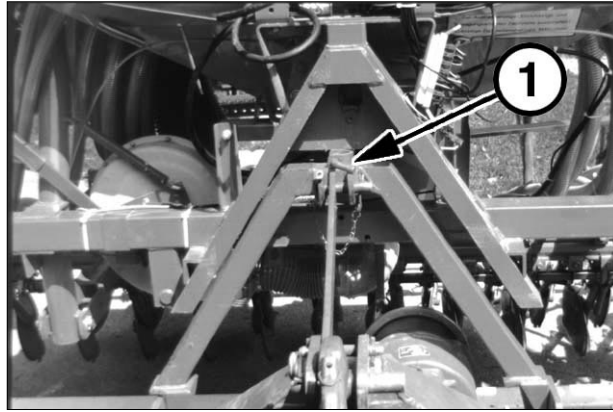

Fig. 7-7
7. Carefully raise the harrow until the triangular coupling bracket engages with the implement triangle. Check the safety lever (1; fig. 7-7) on the saddle triangle. This must be properly engaged.